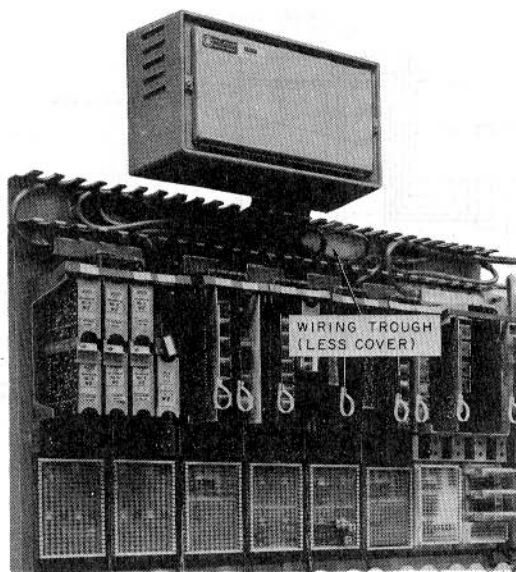

Fig. 11—Installation Using Wiring Troughs for Power Cabling
- (6) The 79B1, 79B2, and 90B1 power units are to be mounted above the cluster of modular panels they service with top of unit(s) 7 feet 5 inches from the floor. Add 1 inch to this dimension if wiring trough is used.
- (7) Fasten the backboard plate assembly to the wall using appropriate fasteners.
- (8) Hang power unit on backboard and secure it with the machine screw(s) provided.
- (9) Plug single-ended power interconnect cable of modular panel into appropriate connector of power unit. If it will not reach the power unit, use a P12D cord (Table D) to complete the connection. ♦To disconnect power cord, squeeze the tabs on the top and bottom of the power cord connector and pull out.♦
- (10) Wiring troughs (Fig. 11) may be used to hold excess loops of power cable and improve the appearance of the installation. Mount the troughs horizontally on the wall directly above the modular panels (mounting screws to be